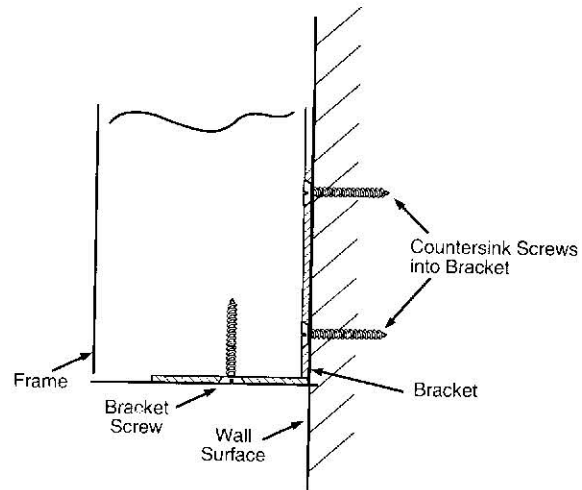
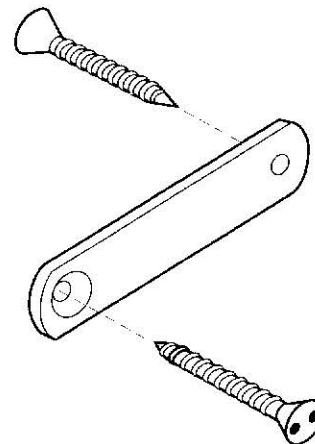

Figure 5
Figure 6
**Angle Brackets** (see Figure 5) and **Security Straps** (see Figure 6) can be used to secure pictures hanging from picture wire. They can be used to make pictures hung from conventional hooks slightly harder to remove and can be used as additional security when hanging pictures from any of the security hangers previously described. Brackets and straps afford equal protection, but the brackets usually are less visible to viewers.